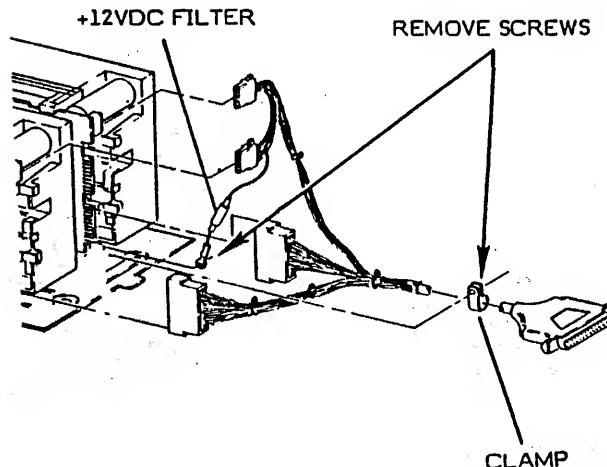

Figure 3-18 DISK DRIVE HARNESS REMOVAL
2. Disconnect P1, P1A, P2 and P2 drives. (Fig. 3-18)